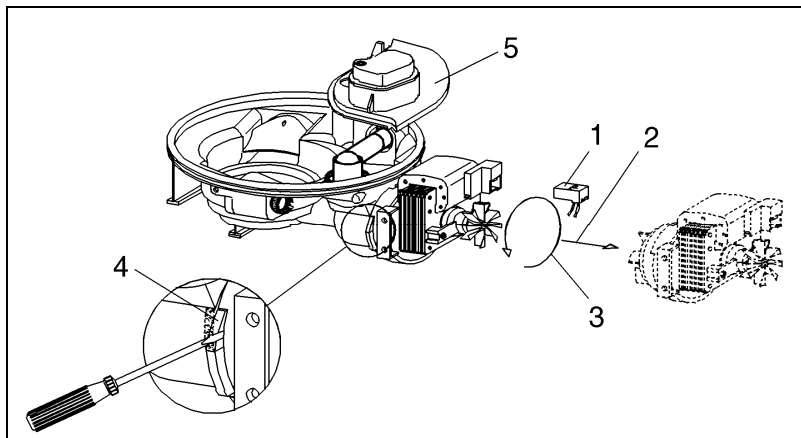

Figure 5-33: Drain Pump Removal
3. Disconnect the pump electrical connection (Figure 5-33, Item 1).
4. Release the locking tab (Figure 5-33, Item 4).
5. Turn the drain pump 90° counterclockwise (Figure 5-33, Item 3) to release it from its mounting.